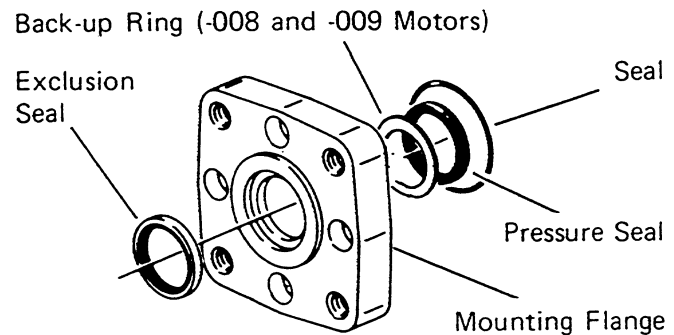
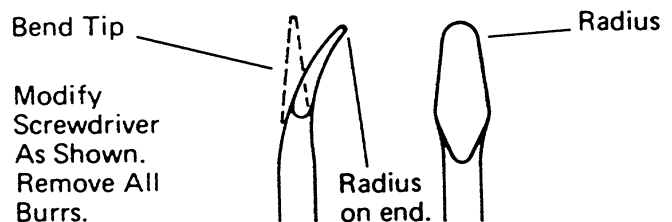

Figure 7
Figure 8
- 16 Exclusion seal, back-up ring, pressure seal and seal will come off with flange (Figure 7). Use seal removal tool, shown in Figures 8 and 9, to remove exclusion and pressure seals.